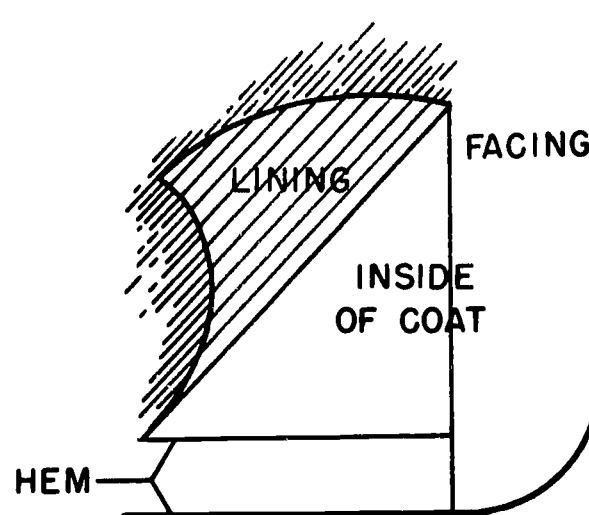

Figure 45.
3. Measure the width of the original hem and record on the tag. This amount can be used as a guide when determining the width of the new hem (see Figure 45).